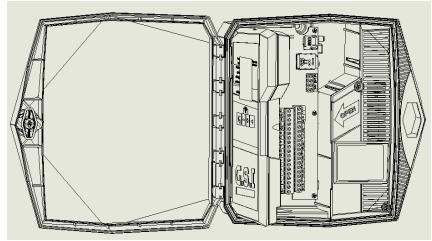

Figure 2: Control Panel Swung Outward
2. Swing out the control panel (Figure 2).